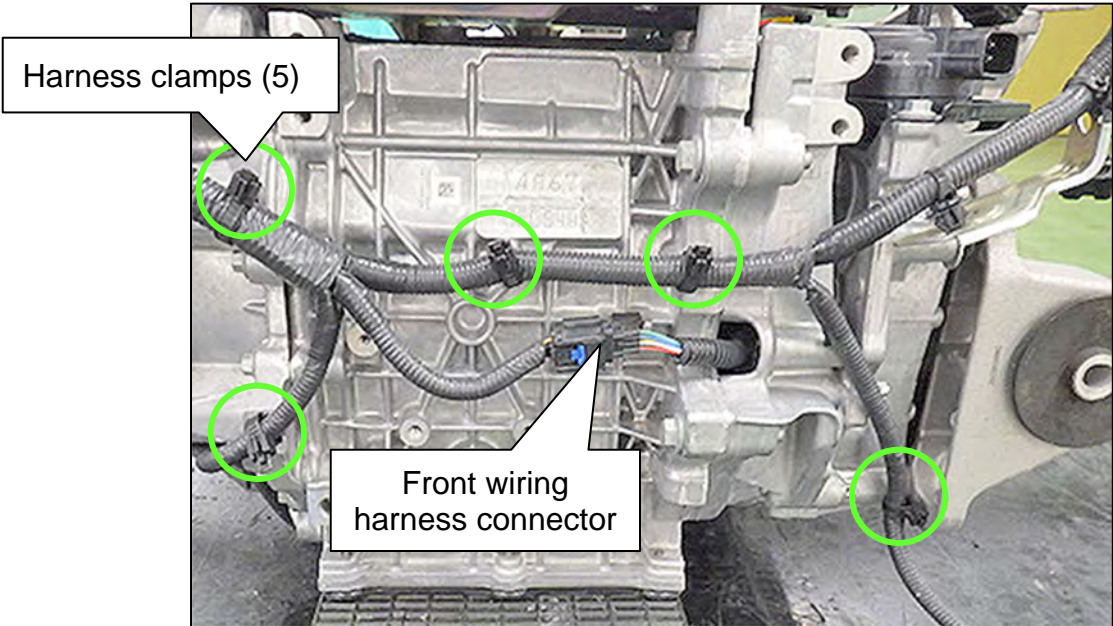

Figure 125
147. Attach the front wiring harness into its five (5) harness clamps, and then connect the harness connector shown in Figure 125.